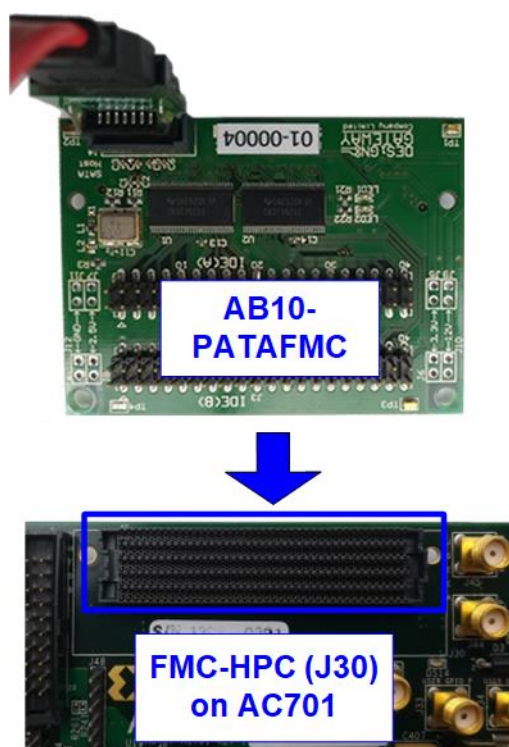

Figure 2-3 AB10 and AC701 connection
5. Connect AB10-PATAFMC to FMC-HPC connector (J30) on AC701, as shown in Figure 2-3